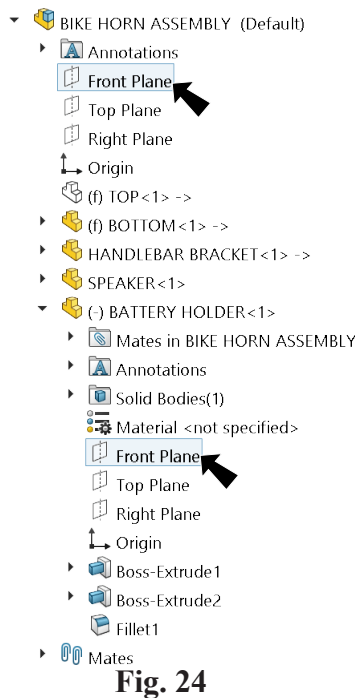

Fig. 24
Step 4. Click **Front Plane**  in flyout Feature Manager design tree, expand **BATTERY HOLDER** and click **Front Plane** , **Fig. 24**.